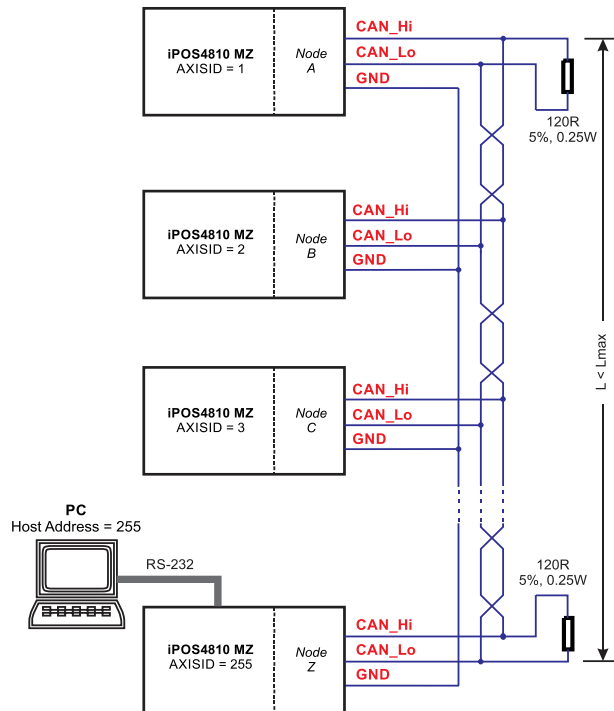

Figure 2.31. Multiple-Axis CAN network
1. The CAN network requires a 120-Ohm terminator. This is not included on the board. Figure 2.31 shows how to connect it on your network